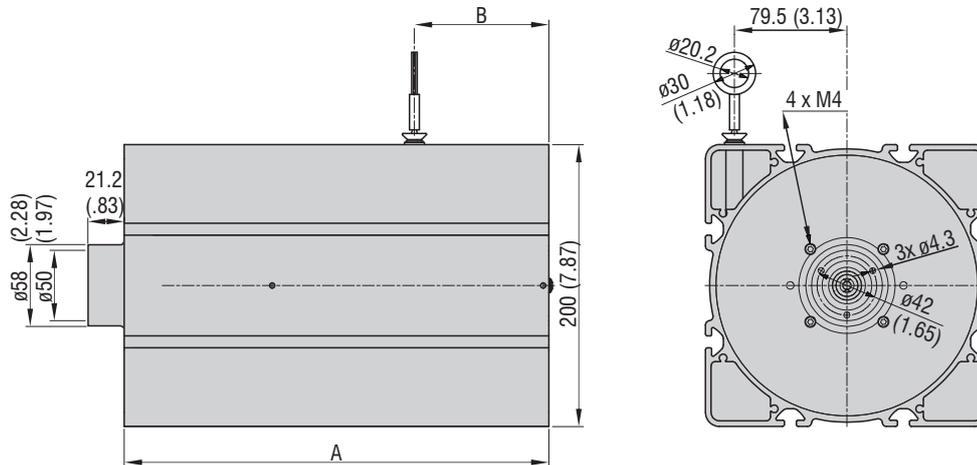

Fig. 7 WDS-P200-M series, dimensions in mm (inches, rounded off)
- P200 series: 4x M8 DIN 912 and 4 slot nuts, see Fig. 7.